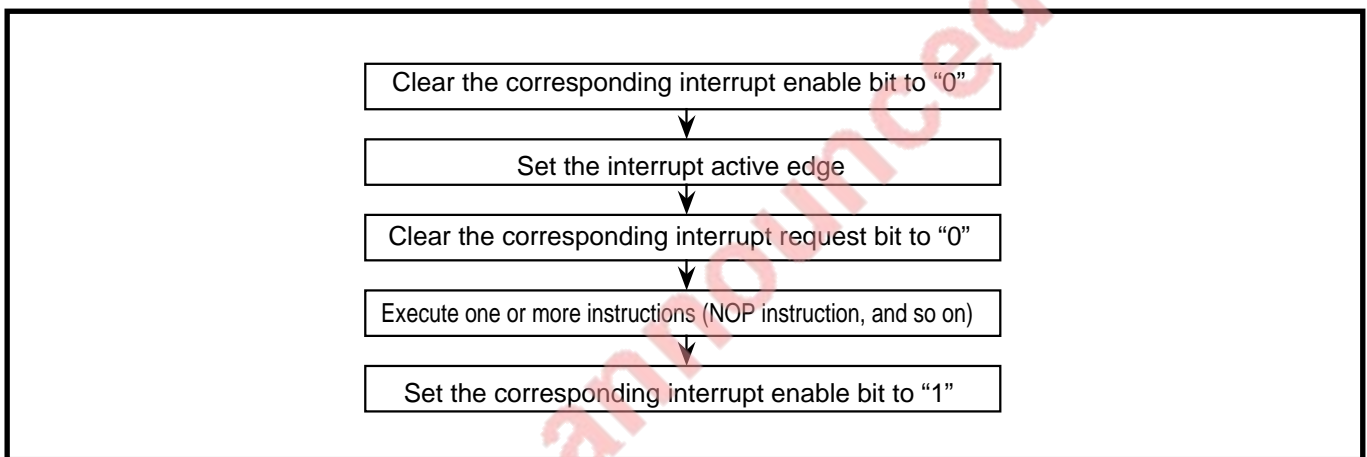

Fig. 1.11.7 Example of register setting
- (1) When using P30 to P33 as input ports, put the corresponding INT interrupt or the CNTR interrupt into a disable state.
- (2) Set the interrupt request bit and the interrupt enable bit for preparations for an interrupt in the following order.
- 2 Set the interrupt enable bit to "1." (Interrupt enabled)When using the INT interrupt or the CNTR interrupt, first set the interrupt detection edge and then set the above items 1 and 2. (Refer to (4) that will be described later.)
- (3) An interrupt request bit can be cleared to "0" by software, but is still remained at the value precedent to a change immediately after execution of the clear instruction. For this reason, when executing the BBC or BBS instruction after changing an interrupt request bit, first execute the interrupt request bit change instruction and then execute the BBC or BBS instruction after one instruction or more.
- (4) When the detection edge of the INT interrupt or that of the CNTR interrupt is switched, the corresponding interrupt request bit may be set to "1." Accordingly, perform setting referring to the register setting example shown in Figure 1.11.7.